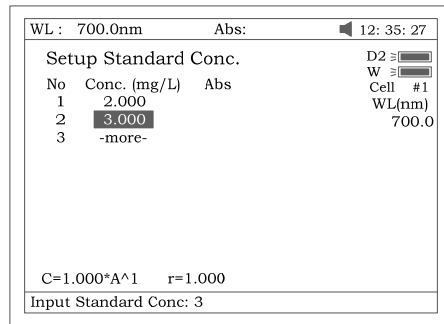

Fig 31
- Enter standard concentrations of samples by pressing the Numeric keypad followed by [ENTER]. Press [^] or [V] to modify the inputted data Fig31.